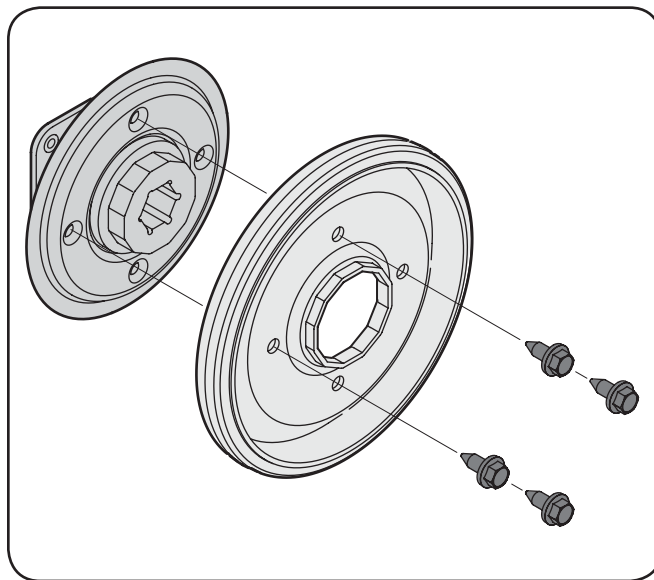

Figure 7-12
- Remove four screws securing the friction wheel rubber between the friction wheel plates. See Figure 7-12. Discard old rubber.